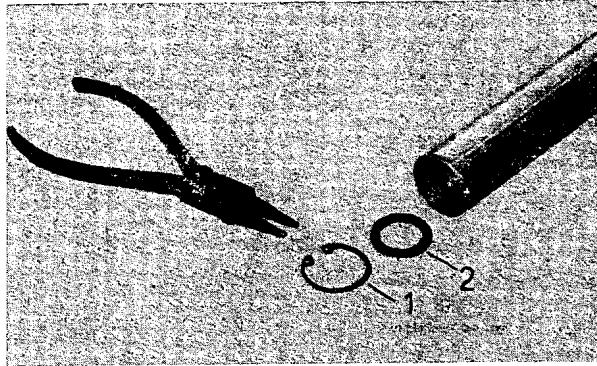

Fig. 110. Removing the thrust washer (2 mm in thickness)
- Remove the lock ring (1) seated behind the valve spring and the washer (2) from under the ring (Fig. 110).